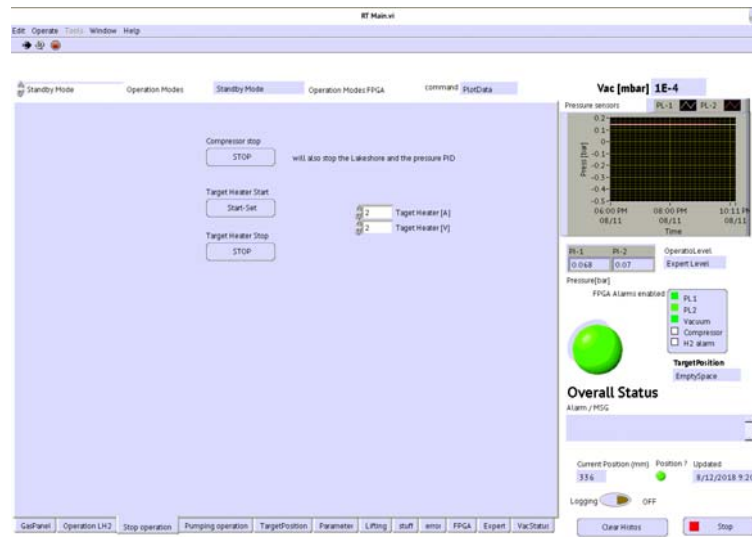

Figure 14: A picture of the 'Stop operation' tab of RTMain.vi.
9. For a faster warm up, set target heater power to 3 W on 'Stop operation' tab on RTMain.vi (Fig. 14). Press 'Start-Set'.